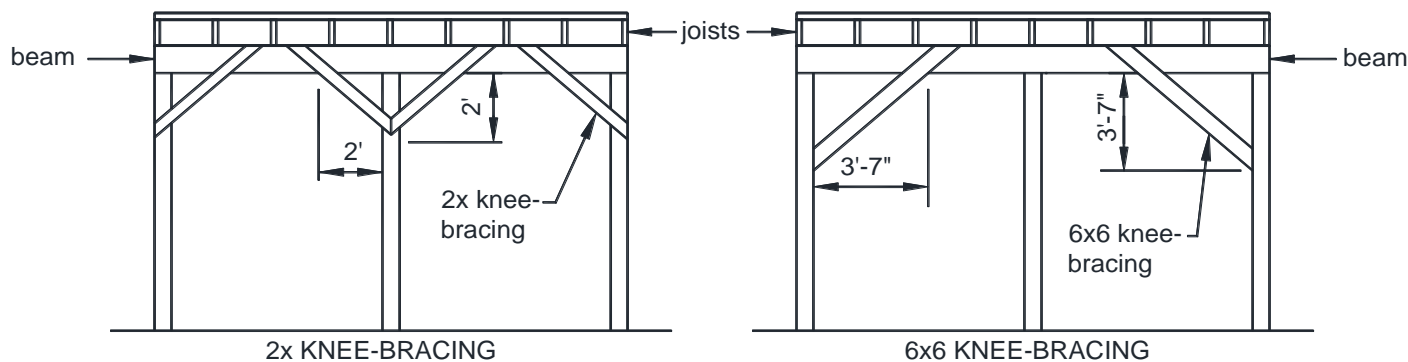

FIGURE 30: METHOD 2 - KNEE-BRACING AT BEAM-POST LOCATIONS
- Decks shall have 2x knee-bracing installed at each post-beam location or 6x6 knee-bracing at end posts and both sides of every other interior post in accordance with FIGURE 30.